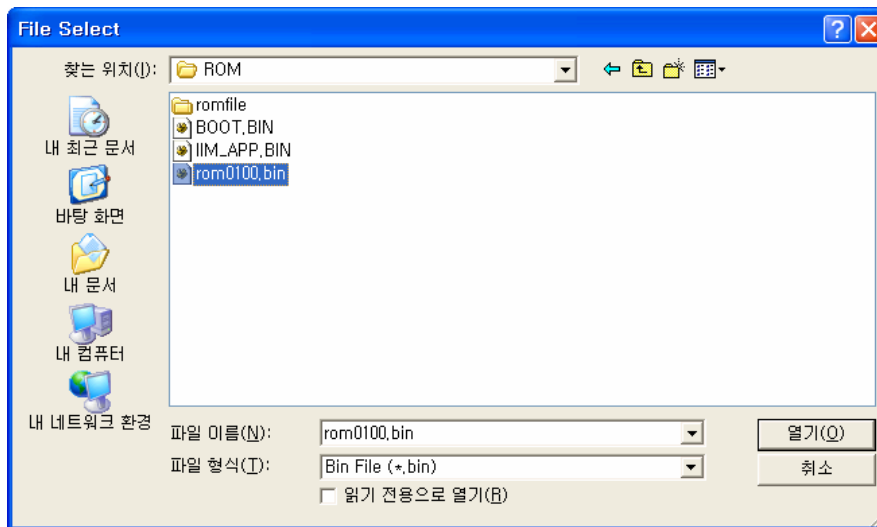

Fig 11 Open dialog box for uploading
- ④ When the window as shown in Fig 11 is displayed, select file to upload and click "Open" button.